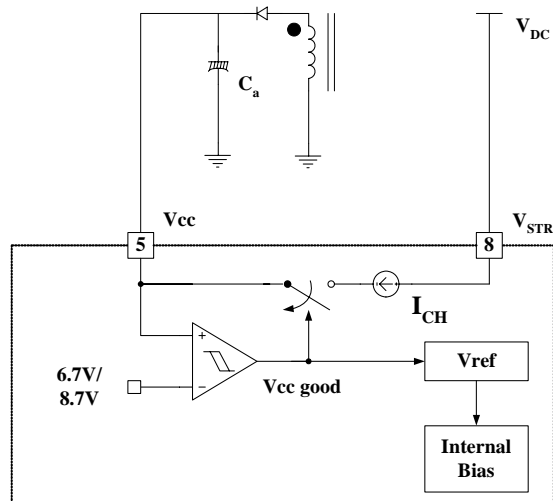

Figure 4. Startup Block
**1. Startup:** At startup, an internal high-voltage current source supplies the internal bias and charges the external capacitor ( $C_a$ ) connected to the  $V_{CC}$  pin, as illustrated in Figure 4. When  $V_{CC}$  reaches 8.7V, the FPS begins switching and the internal high-voltage current source is disabled. The FPS continues normal switching operation and the power is supplied from the auxiliary transformer winding unless  $V_{CC}$  goes below the stop voltage of 6.7V.